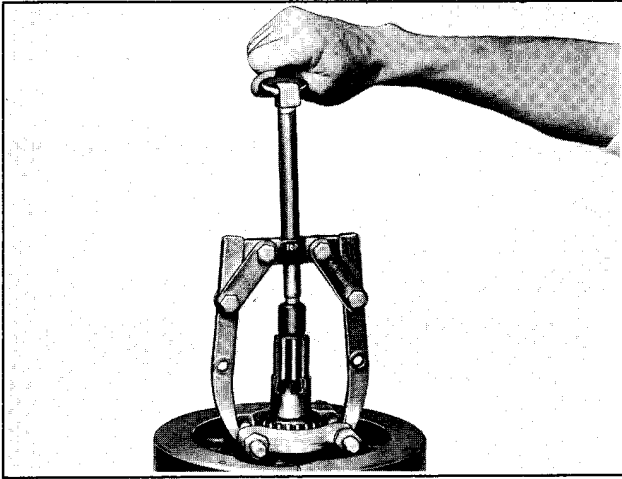

Figure 3-38. Pulling Bearing from Sprocket Shaft
8. If flywheels are to be disassembled, grip pinion shaft in vise and pull bearing from sprocket shaft using claw puller and wedge attachment (see Figures 3-78 and 3-79). Place wedge halves behind bearing and pull bearing off by tightening puller screw against sprocket shaft center as shown in Figure 3-38. Keep bearings in a set with proper bearing outer races.